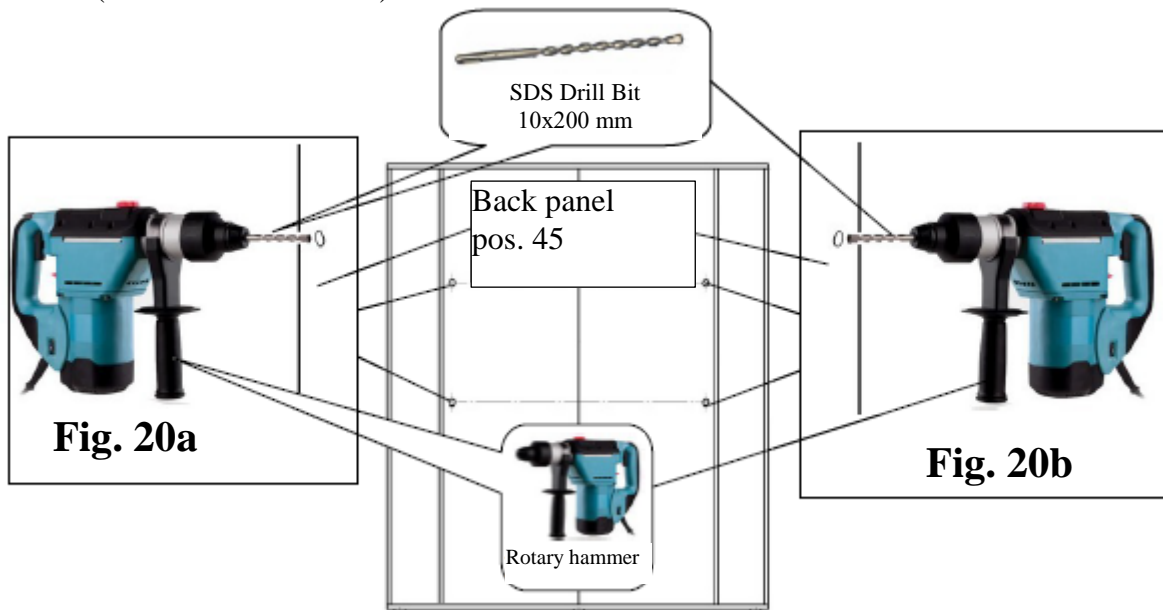

Fig. 20
Step 20. Take the rotary hammer  and attach the SDS drill bit 10x200 mm into it. After inserting the drill bit into the holes in the back panels (pos. 45), drill the holes in the wall as shown in **Figures 20, 20a and 20b** (four locations in total).